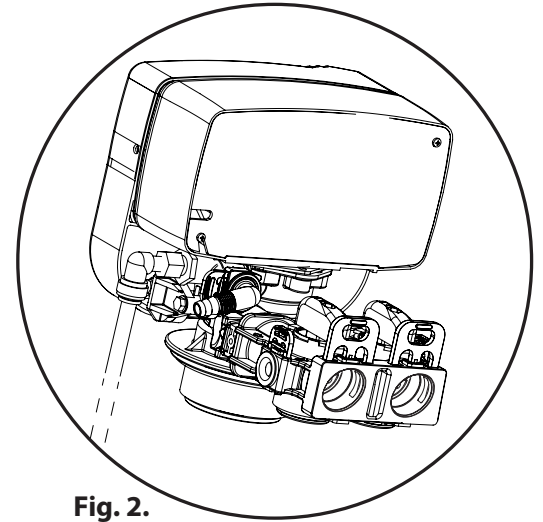

Fig. 2.
7. Attach the brine line from brine tank to brine line fitting on control valve. See **Fig. 2**.